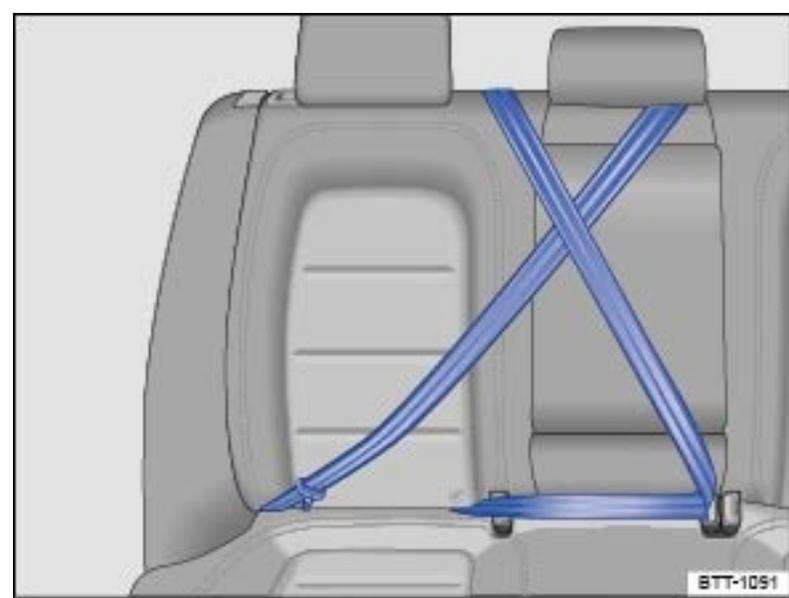

Fig. 74 Keep unused safety belts away from children in child restraints.
You must take special precautions when installing a LATCH/UCRA child restraint behind the front passenger or driver seats. Always route the center safety belt and the unused safety belt for the seating position where the child restraint is being installed securely out of the child's reach. Securing the safety belts will help prevent a child from playing with an unused safety belt and becoming entangled with it → Fig. 74.
- ▶ Buckle the safety belt → Fig. 74.
You must take special precautions when installing a child restraint with the vehicle safety belt or with LATCH/UCRA lower universal anchorages behind the front passenger seat or behind the driver seat. Always route the center safety belt and the unused safety belt for the seating position where the child restraint is being installed securely out of the child's reach. Securing the safety belts will help prevent a child from playing with an unused safety belt and becoming entangled with it → Using a child restraint on the rear seat , → Fig. 74 .
seat , → Fig. 74 .